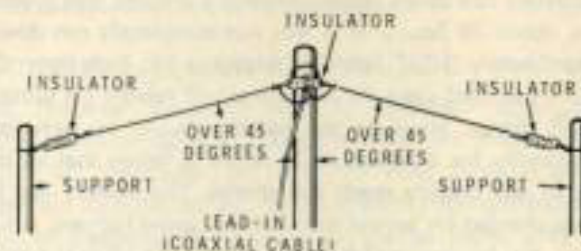

Figure 10
- 1B. Locate three supports that are fairly high off the ground. The center support should be 20 to 100 feet from the ground and both end supports over 10 feet from the ground. Note that the angle between the center support and the antenna wires should be over 45 degrees. An inverted - V antenna can be suspended between the three supports as shown in Figure 10.